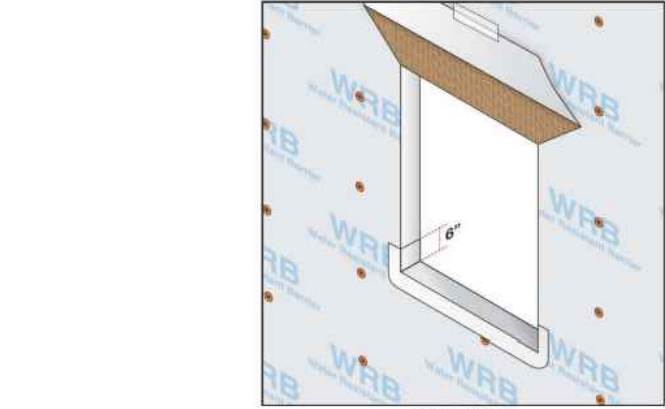

FIGURE 11
7.2.3 When self-adhering flashing is used as a sill pan, cut to a length equal to the rough opening width plus at least 300 mm (12 in), such that 150 mm (6 in) minimum is used at each jamb to form end dams (See Figure 11).